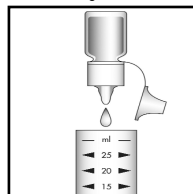

Figure 2
2. Add 2 drops of S-8500 Activator Solution (fig. 2). Cap the sample cup and shake it to mix the contents well.